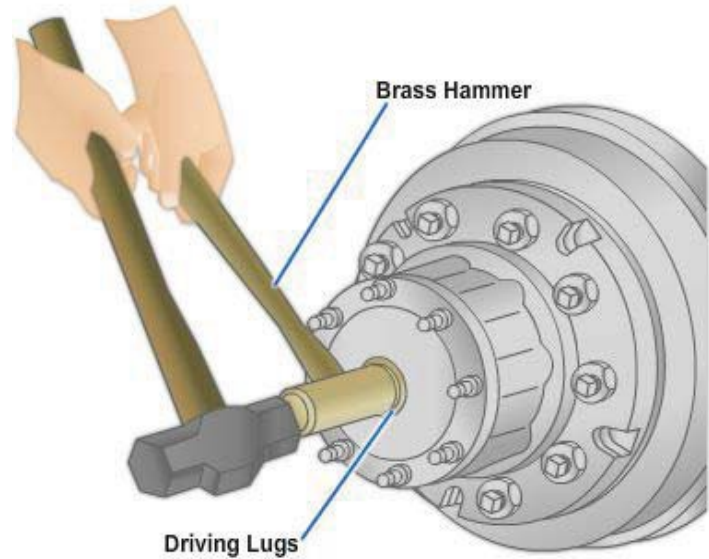

Figure 8-66 - Loosen the tapered dowels with a brass drift and large hammer.
6. Next, loosen the tapered spring dowels from the axle shaft flanges. Use a brass drift and large hammer to loosen the dowels (*Figure 8-66*). Remember that when they loosen, they will pop at once and can fly off like bullets if the axle retaining nuts have been removed.